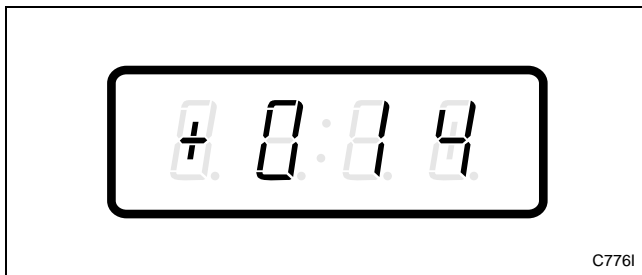

Figure 34
3. Press the DELICATES (+) or the COLD (-) keypad to scroll through the programmable options until “+014” appears in the VFD. Refer to *Figure 34*.